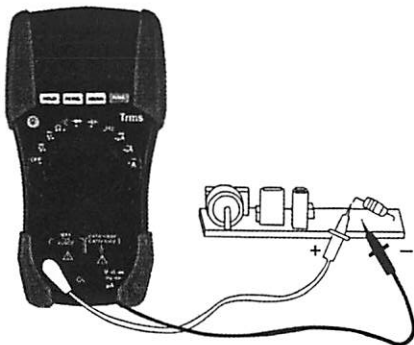

Fig. 5: Operation for AC Current measurement
3. Insert the test leads into the jacks, the red plug into **A** jack and black plug into **COM** jack (see Fig. 5).